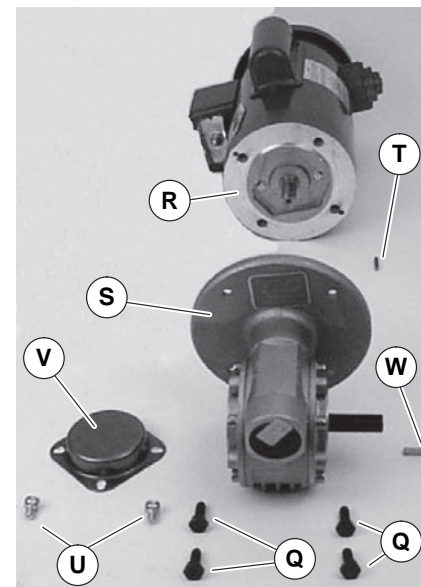

Figure 19
6. Remove four screws (Figure 19, item Q). Detach motor (R) from gear reducer (S). Retain shaft key (T).
12. With key (Figure 19, item T) in keyway, slide motor (R) and gear reducer (S) together. Install screws (Q) and tighten.